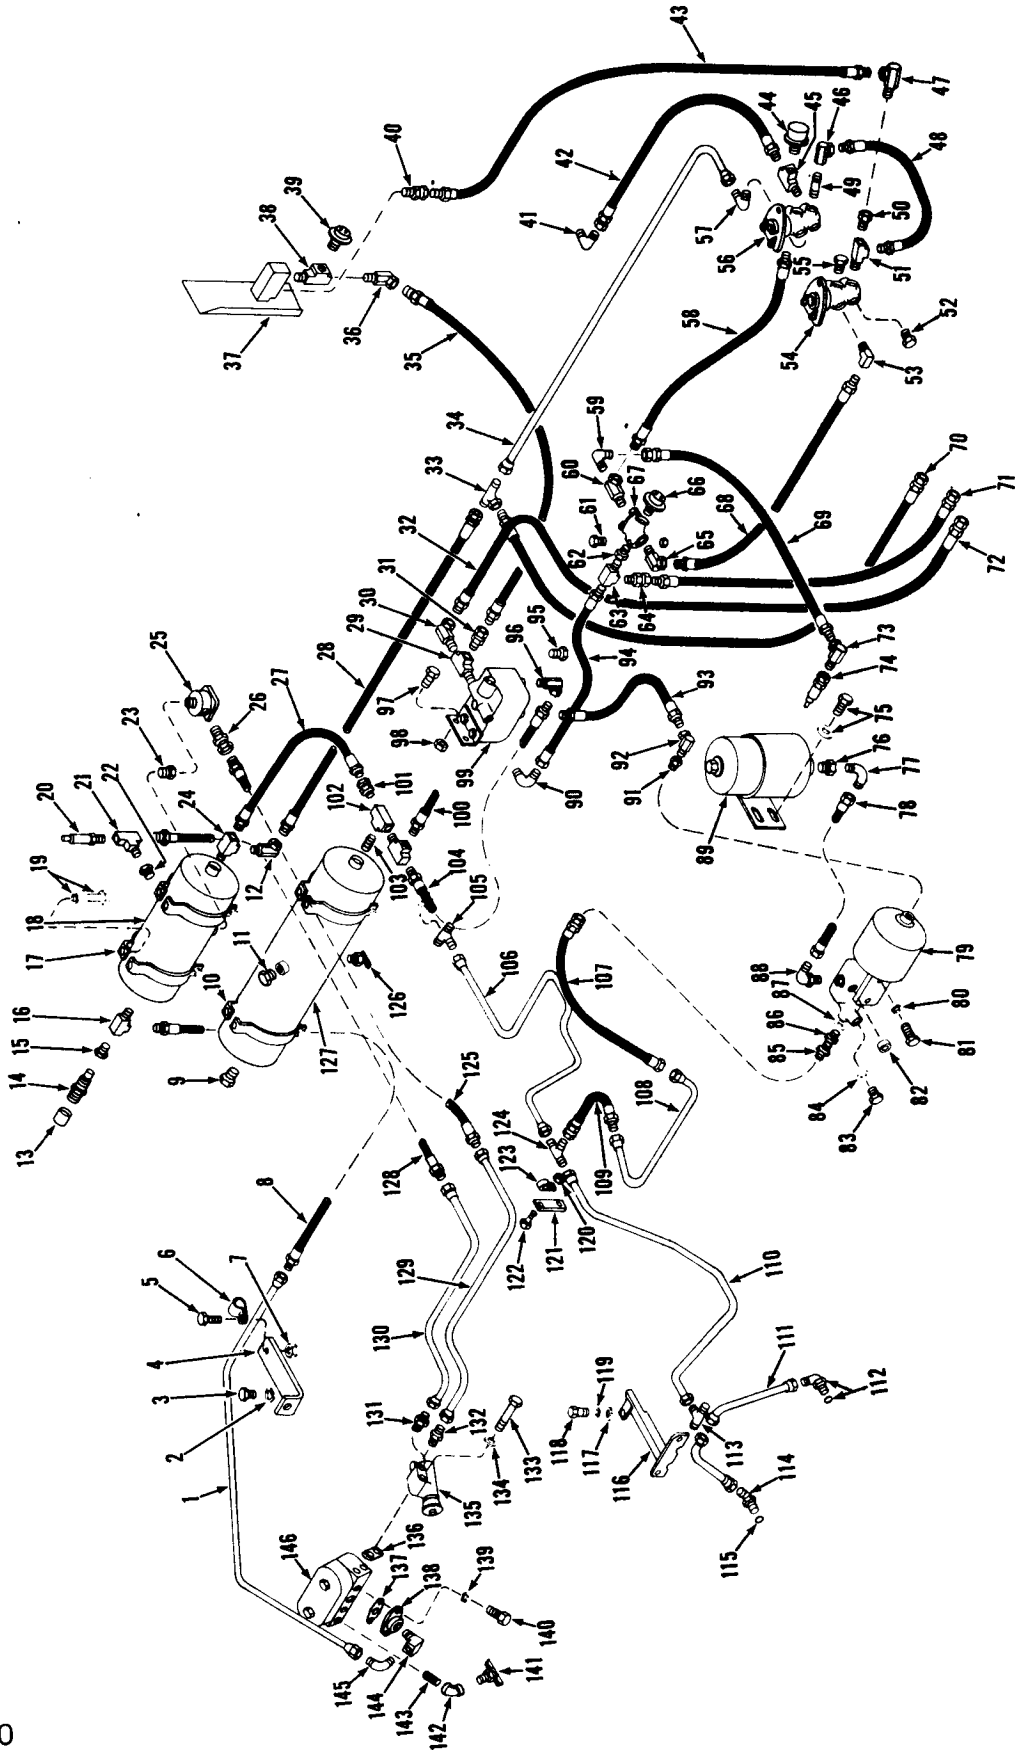
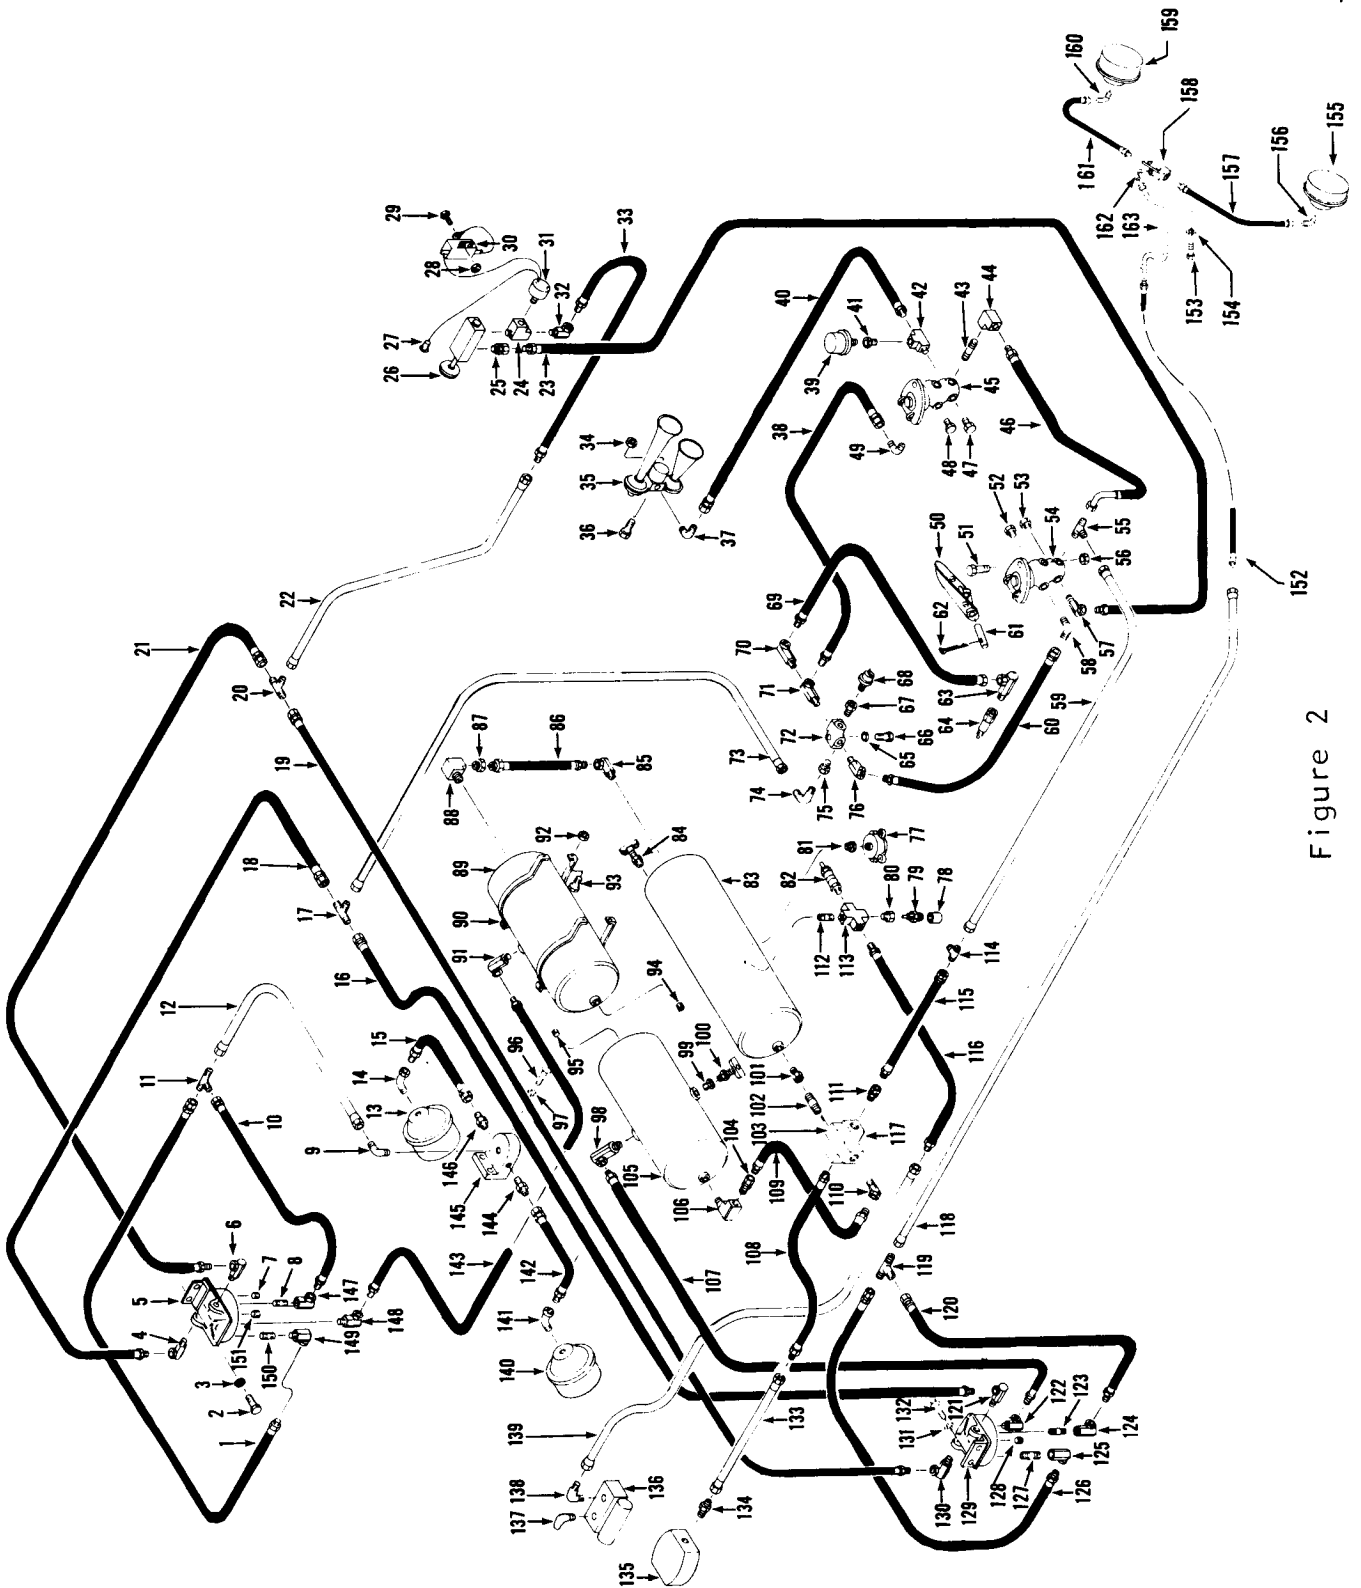

Figure 1
Figure 2
275B Cummins	Use Figure 2
1. Refer to appropriate installation drawing, Figure 1 for Model 175B G. M. or Figure 2 for 275B Cummins and remove existing hose (Item 8, Figure 1) for 175B G. M. or (Item 108, Figure 2) for 275B Cummins.